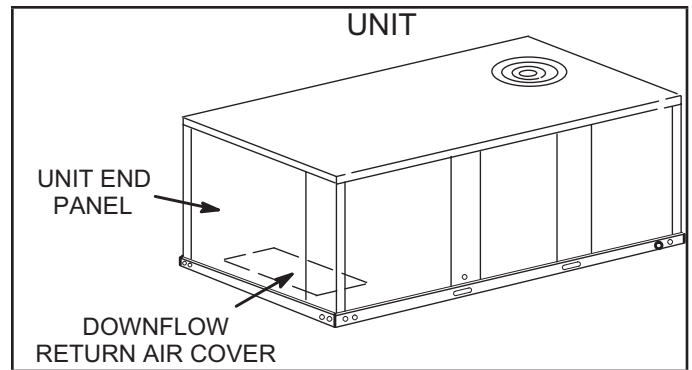

**FIGURE 5**
- 9 - Connect economizer plug P3 to unit jack J3 as shown in FIGURE 5.